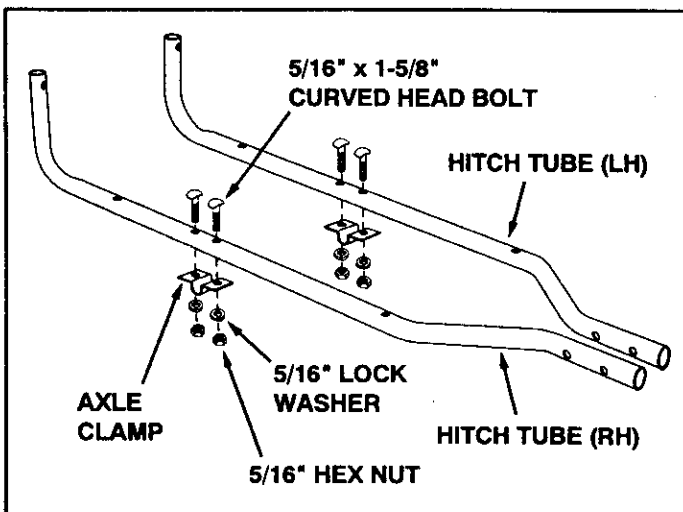

FIGURE 1
- Assemble the axle clamps to the hitch tubes using four curved head bolts, 5/16" lock washers and 5/16" hex nuts. **Do not tighten yet.** See figure 1.
- **Tighten** the four hex nuts which fasten the axle brackets to the hitch tubes. See figure 1.